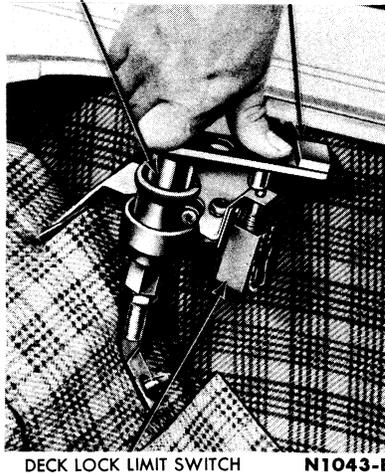

FIG. 28—Deck Lock Switch Adjustment
1. Use tool T61B-15780-A (Fig. 28).